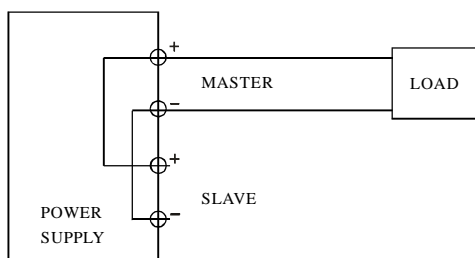

Fig 6.1 Parallel connected power supply
When both Tracking buttons are pressed in (14) (15), the 2 power supplies are parallel connected. The connections between the 2 power supplies are internal as shown in Fig 6-1. The Master's Voltage control varies both supplies simultaneously in a one to one tracking relationship. When the master and slave are in parallel, the voltage is the same for both supplies as read on the Master's voltmeter and the current supplied to the load is double of what is displayed on the Master or Slave Ammeter. Example: if the Master and slave is set to 10 volts and each ammeter is reading 4 amps, the voltage to the load is 10V and the current is 8 amps